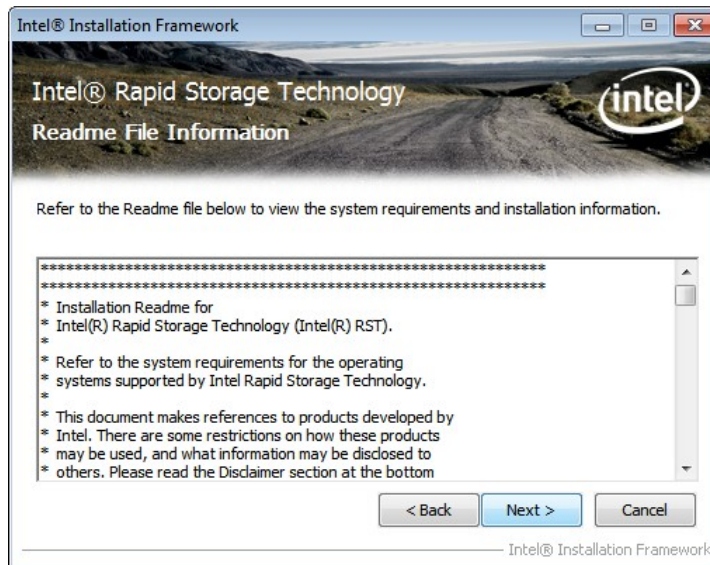

Figure 6-24: SATA RAID Driver Read Me File
Step 9: The Read Me file in **Figure 6-24** appears.